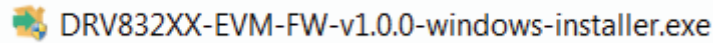

Figure 13. DRV835XX Firmware Installer Executable File
- Step 1. Double click the executable file (.exe) for the DRV835XX reference software installer (see Figure 13).